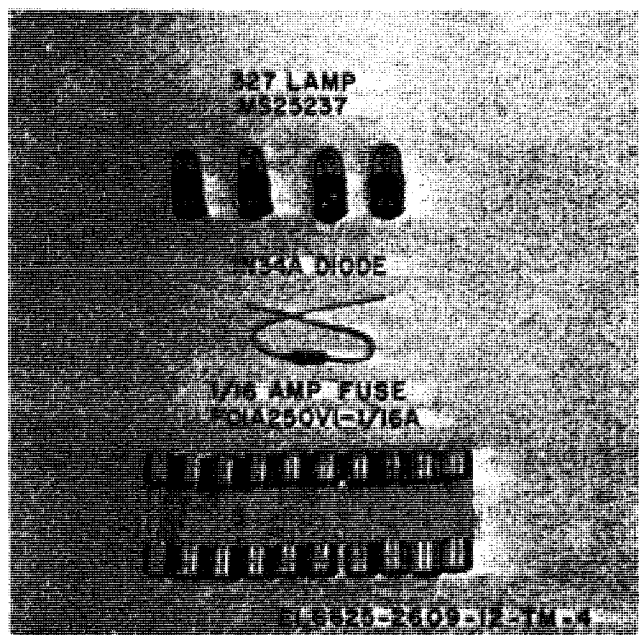

Figure 1-4. Maintenance kit running spares.
**Ten fuses (P/N F01A250V1-16A) for fuseholder in plastic box 083644-0001 (fig. 1-4).